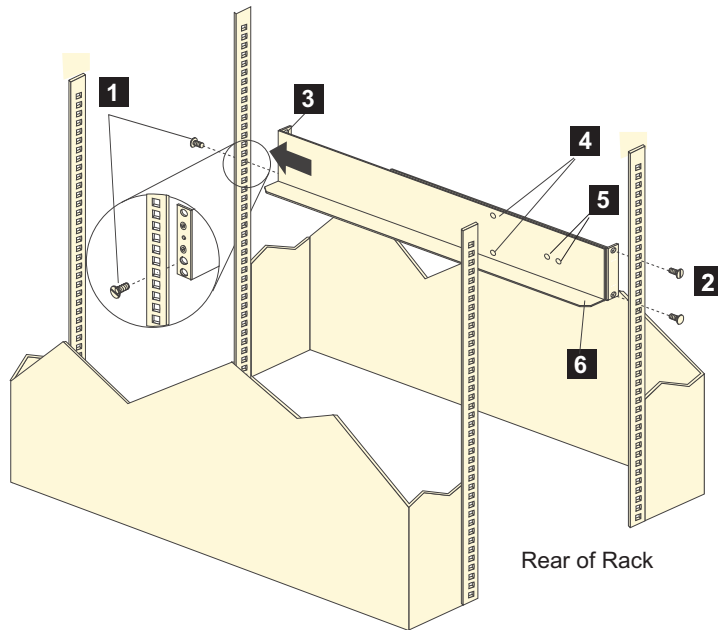

Figure 20. Installing the support rails
Note: Refer to Figure 20 on page 40 while performing these steps.
Note: The support rails are not marked as left or right. However, each rail can be correctly mounted on only one side of the rack cabinet. The rails should be mounted with the alignment pins at the back of the rack. Figure 20 on page 40 shows the installation of the left support rail.
2. Using a #2 Phillips screwdriver, remove the four screws from the rails (two screws in each rail). See **4** in Figure 20 on page 40. If you do not remove these screws, the storage subsystem will not fit securely.